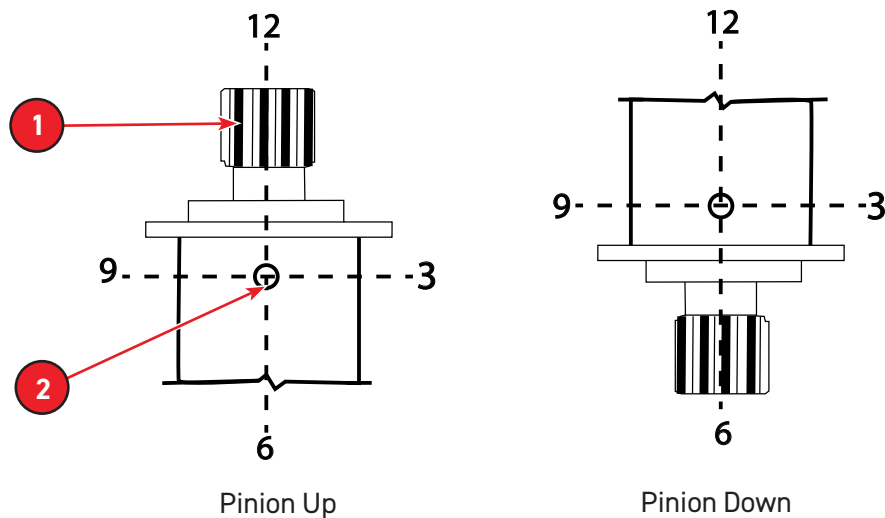

Fig 6 - Swing Drive Port
13. Install the new WAD Sensor, by inserting the threaded end of the sensor into the sensor port of the swing drive (see Fig. 6) by hand, thread it clockwise until the end of the sensor makes slight contact with the gear inside the swing drive housing. Do not force the sensor any past this point, as you may damage the sensor.